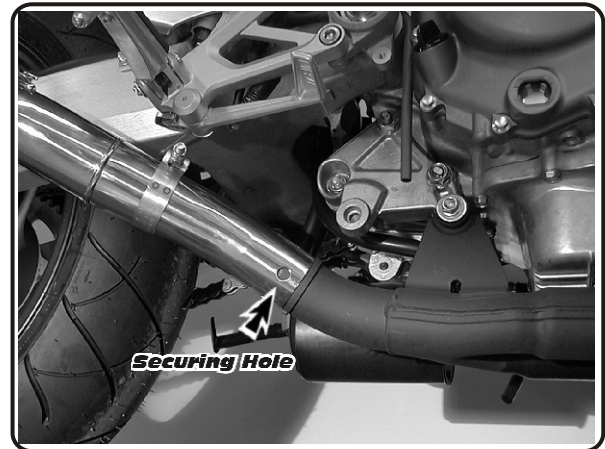

Fig. 5
- 9 Drill 3/16" hole thru end of header at the center of the securing hole in Yoshimura tailpipe. (See Fig.5)